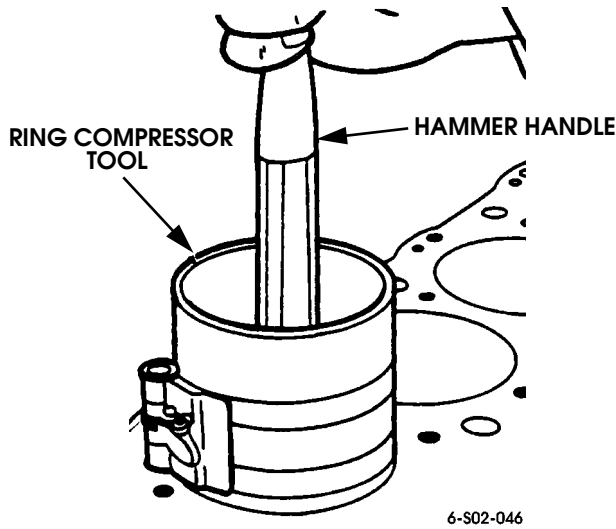

Figure 2-184: Piston Installation
5. Compress piston rings on #1 piston with compressor tool (Figure 2-184).
8. Press piston downward into cylinder with hammer handle (Figure 2-184). Guide rod end onto crankshaft journal at same time.